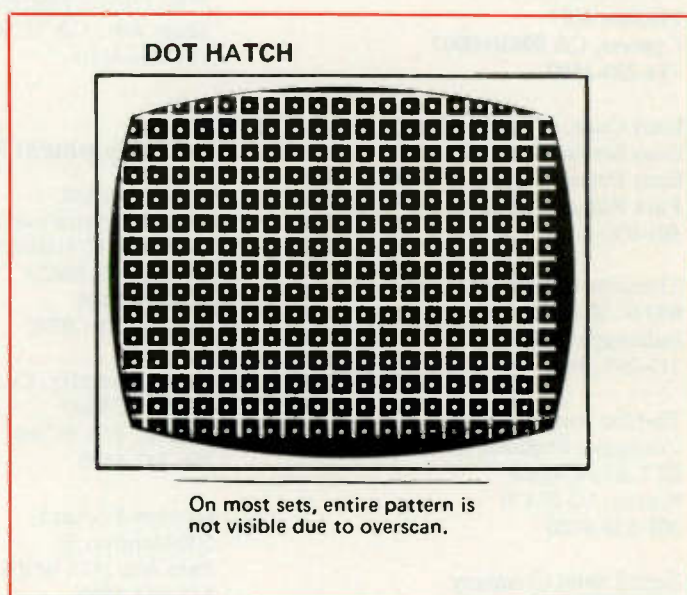

Figure 2. Dots and crosshatch patterns are useful for checking static and dynamic convergence.
- **Dots and Crosshatch Patterns** (Figure 2)—Useful for checking static and dynamic convergence.